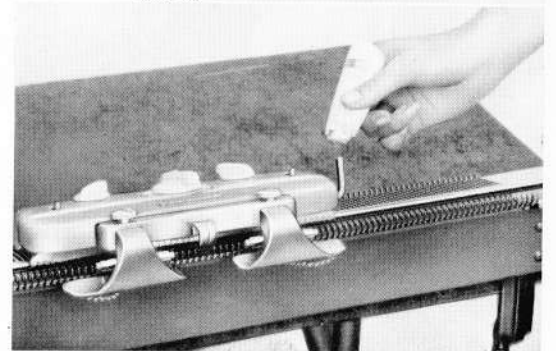

Fig 11
4. Take out the grip handle from the carrying case and screw it on the handle stud of the carriage. See Fig. 11